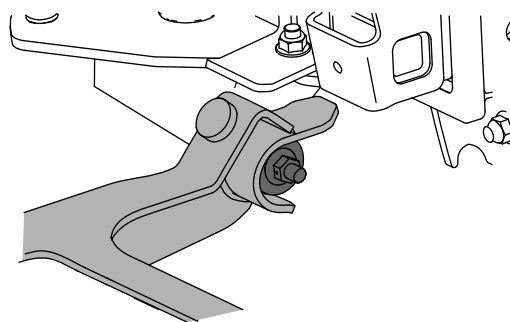

Figure 13
- Place the blower assembly forks onto the bushing assemblies (Figure 13).